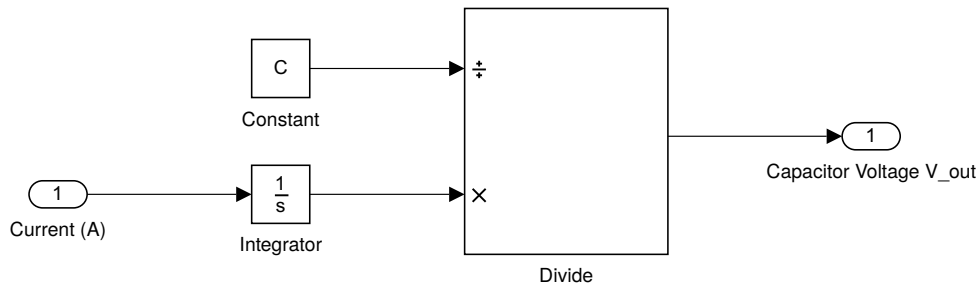

Figure 1.4: The capacitor subsystem.
**Capacitor:** In your main model, now create a capacitor-model as shown in Fig. 1.4. Again create a variable in the Matlab workspace by typing `C= 1e-6`.
**Task 1.1.** Explain why Fig. 1.4 represents the model of a capacitor by writing down the equation it implements.